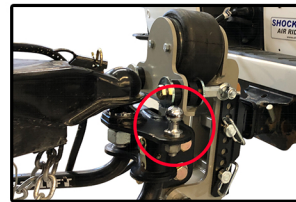

Figure 3: Weight distribution mounting hole location for mini trailer ball
- Most weight distribution mounts are equipped with a mounting hole for the mini trailer ball (see Figure 3). Attach sway control mini trailer ball to weight distribution mount, torque to 100 ft-lbs.